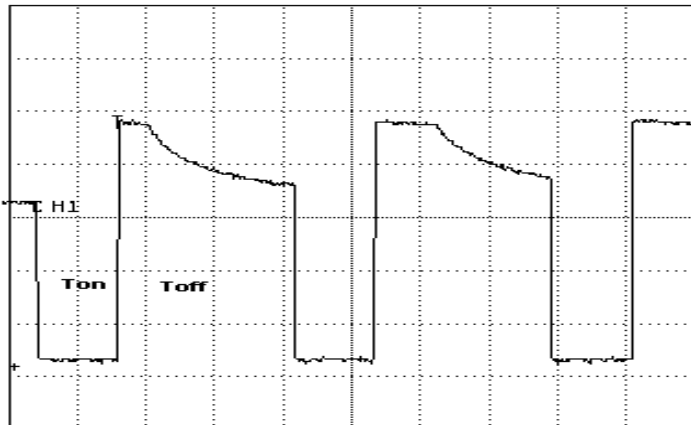
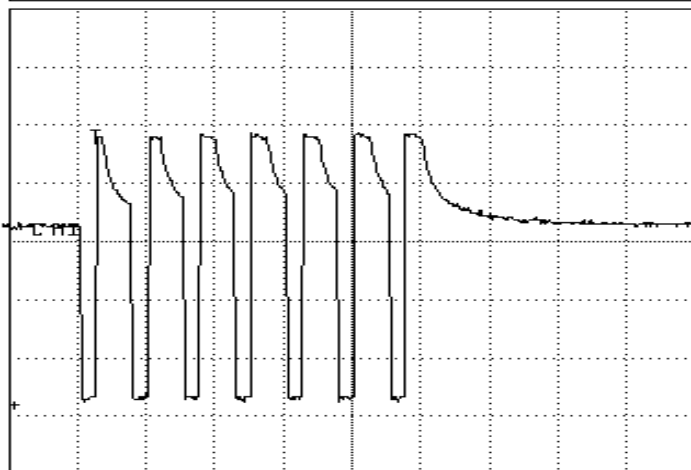

Fig 2a
Fig 2b
- Observe fig 2a and fig 2b at both CP29's